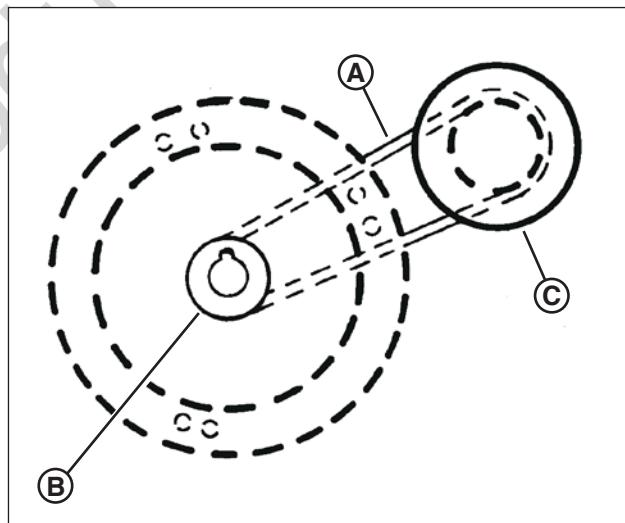

Figure 33: Engine drive belt routing
On self-propelled mowers, the engine belt (**A**, **Figure 33**) transmits power from the engine pulley (**B**) to the drive disc (**C**). The drive disc powers the poly-v belt, which engages the transmission that powers the rear wheels. Should these belts become worn, they could cause slippage, which would impair mower performance. The condition of the engine belt and poly-v belt should be checked after every 25 hours of mower operation.
2. Note the belt routing (**Figure 33**). There is no idler pulley on these models to disconnect.